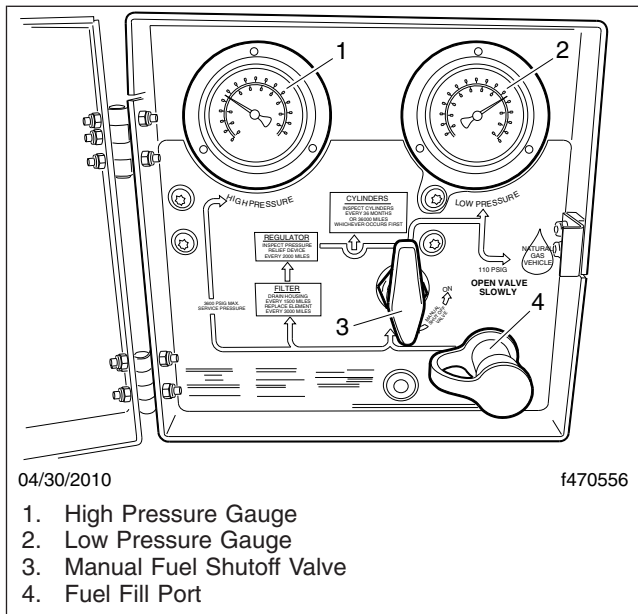

Fig. 11.9, CNG Fuel Panel
4. Inspect all plumbing components, including the fuel shutoff valve(s), primary and secondary relief valves, and the LNG vapor shutoff and excess flow valves, if equipped, for signs of damage or leaks. See **Fig. 11.8** or **Fig. 11.9**.